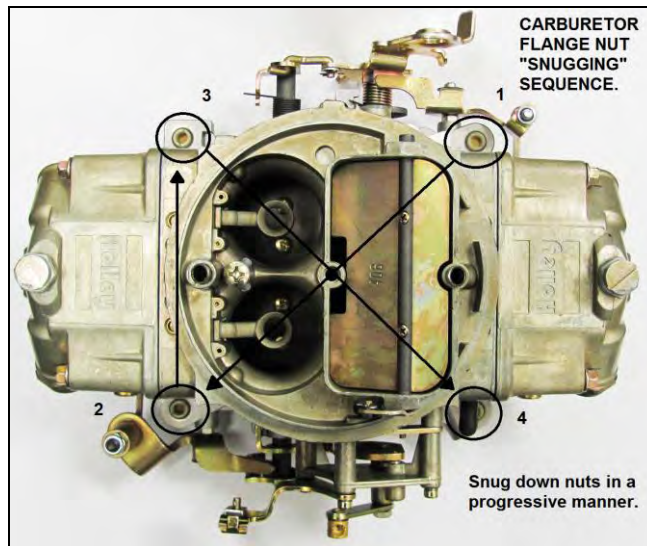

Figure 3
11. Install the carburetor holddown nuts and snug nuts progressively in a "criss-cross pattern" (Fig. 3). Tighten each nut twice. **WARNING:** Over-tightening may result in warped or cracked throttle bodies and/or binding throttle action resulting in an unstable return-to-idle.